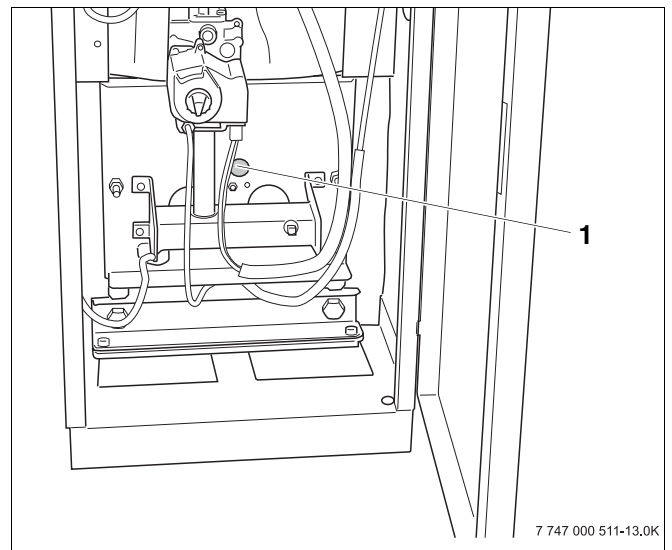

Fig. 39 GC124 II boiler
1. Observe the ignition burner through the sight glass (→ Fig. 39).